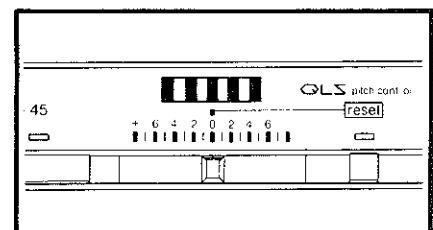

Fig. 18
• Speed adjustment (pitch control) (Fig. 18)